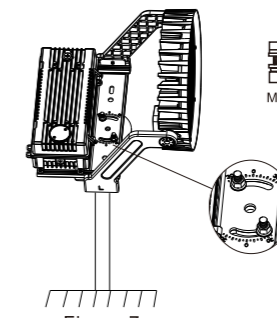

Figure 7
1. According to the need to adjust the lighting direction, can be 360 degrees rotation adjustment, tightened with screws when the adjustment is completed (Figure 7);